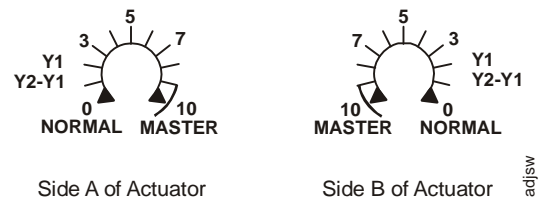

Figure 15: Potentiometer Adjustment for Setting Span and Zero Voltage
3. Adjust the voltage switch (Figure 15) to the desired zero voltage as displayed on the printed 0-10 scale. To inspect the exact setting voltage, attach a voltmeter between the feedback wires (orange [+] and black [common]).